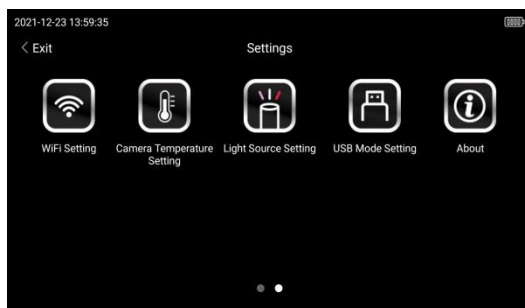

Figure 8-11
- (1) Swipe the menu to the left, it will switch to the second page (see Figure 8-11) :